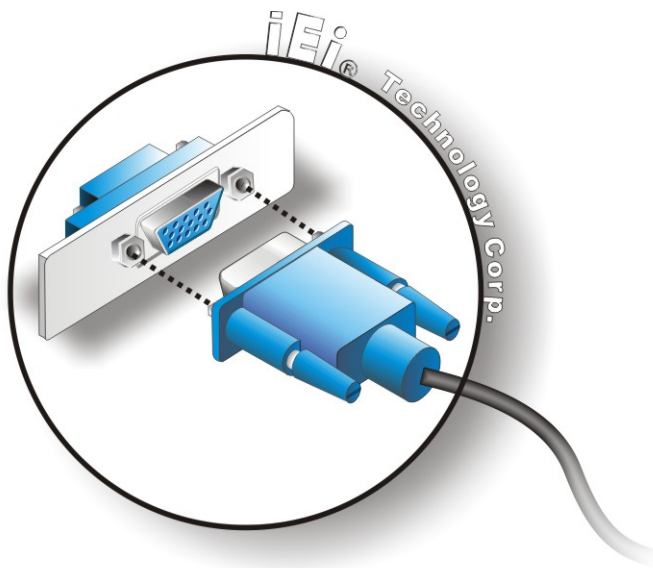

Figure 4-25: VGA Connector
- Step 3:** **Insert the VGA connector** Once the connectors are properly aligned with the insert the male connector from the VGA screen into the female connector on the UPC-12A/GM45. See **Figure 4-25**.